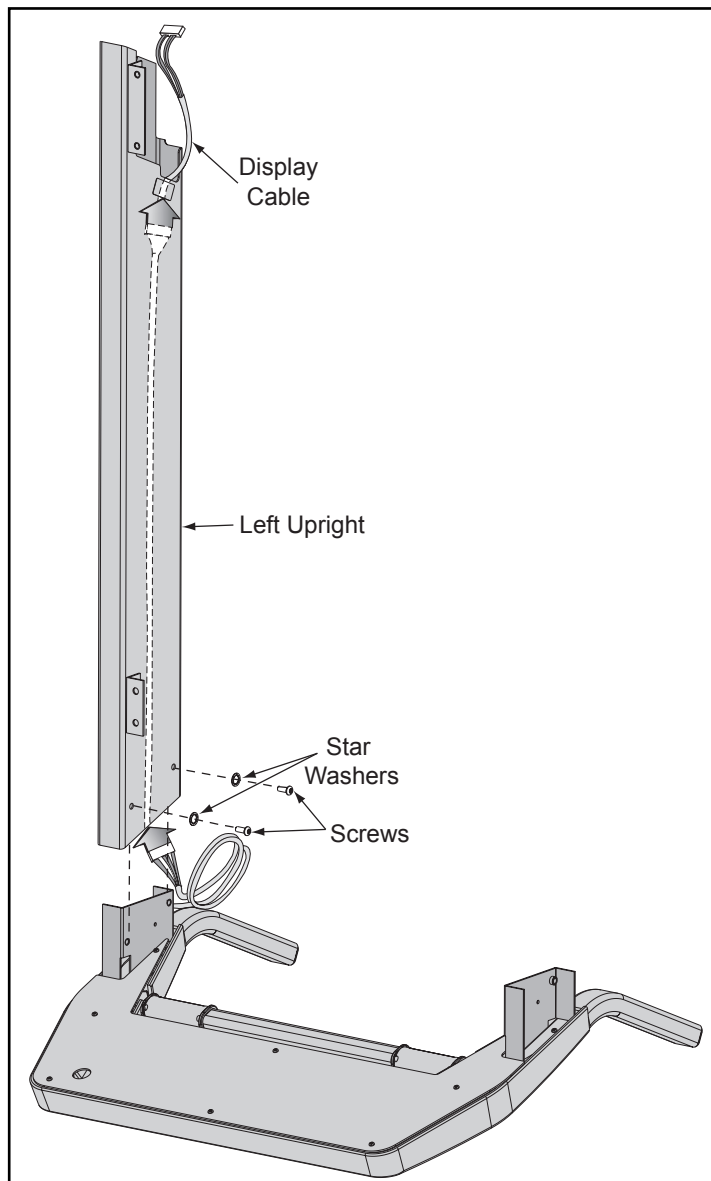

Figure 5
- A.** Place the console assembly on the floor with the display side facing down and place the left upright on the floor with the decal end farthest away from the console. See Figure 5.
- B.** Thread the display cable through the inside of the left upright from top to bottom. See Figure 5.
- C.** Pull the cable out of the bottom of the upright. See Figure 5.
- D.** Slide the support over the console's left mounting bracket and loosely fasten the support to the mounting bracket using two button head screws and two star washers. Leave both screws fairly loose at this time. See Figure 5.